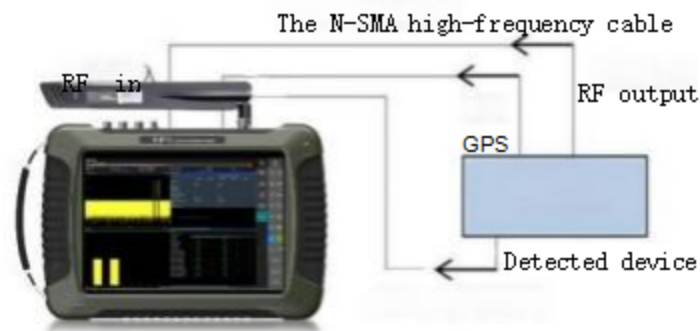

Figure 11.1, Schematic diagram of the tested equipment and RMT series spectrometer
- Step 1. Use a 16 QAM modulation signal, set the frequency to 1G Hz, the power is -10 dBm, the code rate is set to 1 MHz, and the filter type is Root Cosine (filter coefficient is 0.35). Connect the output of the device under test to the RMT series spectrometer RF input port, as shown in Figure 11.1. It is recommended to connect the reference signal for optimizing the test index. Referring to section 3.2.2.